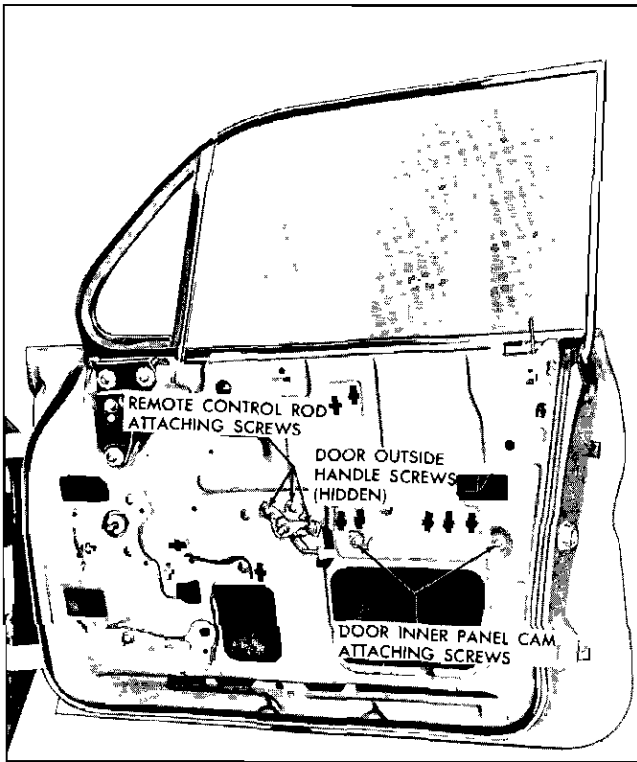

Fig. 2-15 Front Door Hardware
2. Through access hole, remove screws securing outside handle to door outer panel and remove handle and gaskets (Fig. 2-15).
2. Remove screws securing door inner panel cam assembly, then disengage cam from window regulator balance arm and remove from door (Fig 2-15).
2. Remove remote control attaching screws and disengage remote control from connecting rod (Fig. 2-15).